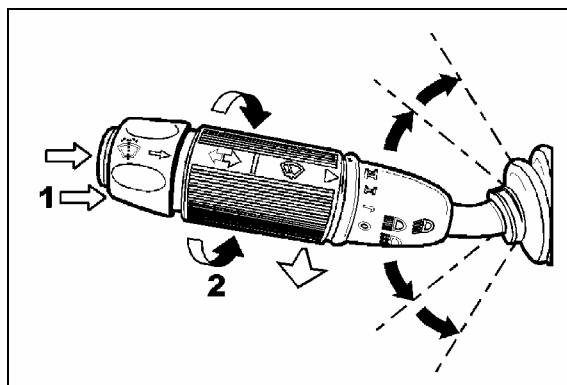

FIGURE 33: MULTIFUNCTION LEVER
Turn the multifunction lever forward to activate lower windshield wipers (item 2, fig. 33). The first position operates the wipers at low speed and the second position operates the wipers at high speed. Turning the lever backwards will operate the wipers in the intermittent mode.
The lower windshield washer pump is electrically operated and is controlled by a washer control ring on the multifunction lever (item 1, fig. 33).